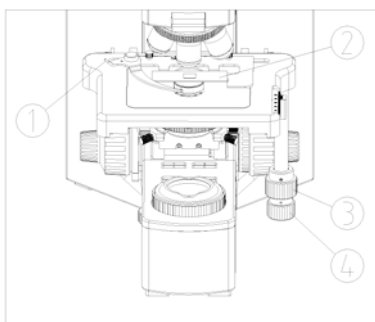

Fig. 12
- (1) Open the stage clip ① of the specimen holder. (See Fig. 12)
- (2) Place the slide with the specimen facing up; carefully release the stage clip ① onto the slide ②.
- (3) Rotate the X-axis knob ④ and Y-axis knob ③ to center the slide.